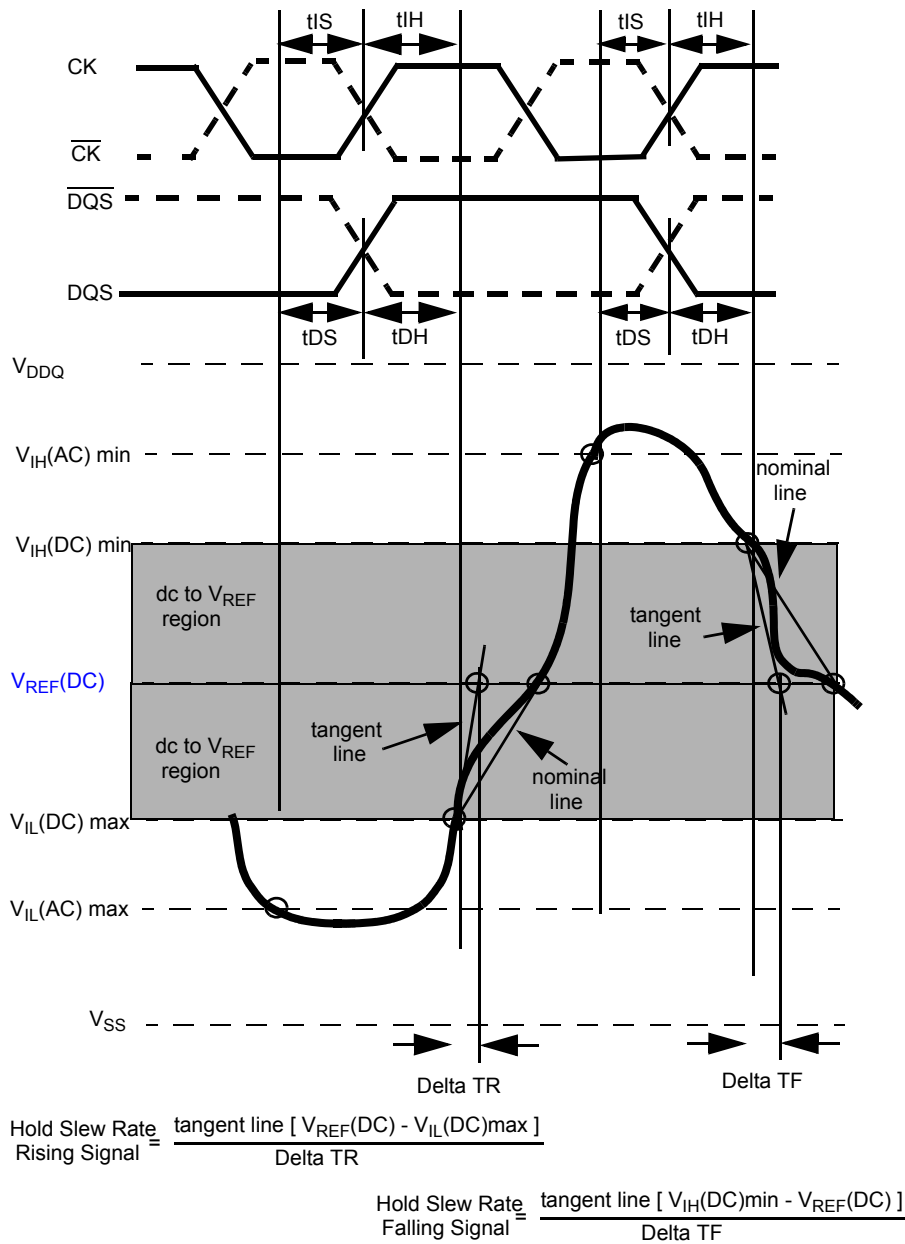

Figure 24 - Illustration of tangent line for hold time tDH (for DQ with respect to strobe) and tIH (for ADD/CMD with respect to clock)
Hold (tIH) nominal slew rate for a falling signal is defined as the slew rate between the last crossing of V_{IH}(DC)min and the first crossing of V_{REF}(DC). If the actual signal is always later than the nominal slew rate line between shaded 'dc to V_{REF}(DC) region', use nominal slew rate for derating value (see Figure 24). If the actual signal is earlier than the nominal slew rate line anywhere between shaded 'dc to V_{REF}(DC) region', the slew rate of a tangent line to the actual signal from the dc level to V_{REF}(DC) level is used for derating value (see Figure 26).